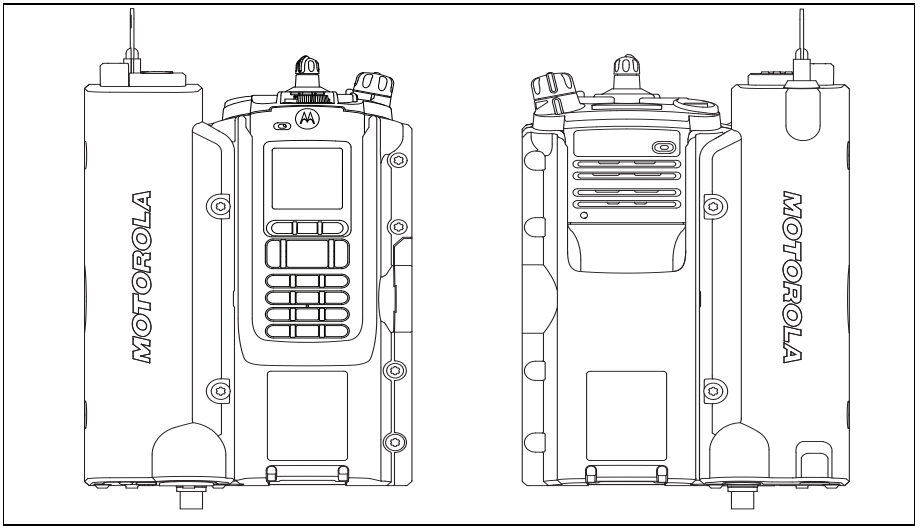
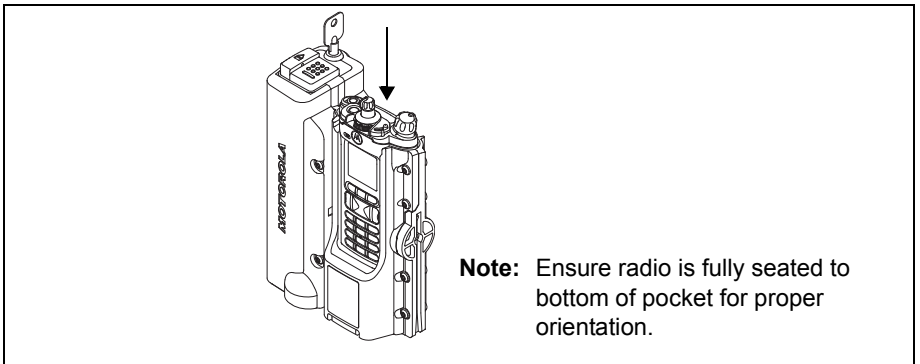

Figure 8: Radio with Keypad Orientation and Speaker Orientation (respectively)
Figure 9: Radio Installation into APX VA Unit
2. Referring to Figure 8 and Figure 9, orient the radio with battery attached-speaker or keypad facing upward or outward. Then, slide the radio into the APX VA's radio pocket as far as it can go until the radio is fully inserted in the pocket.